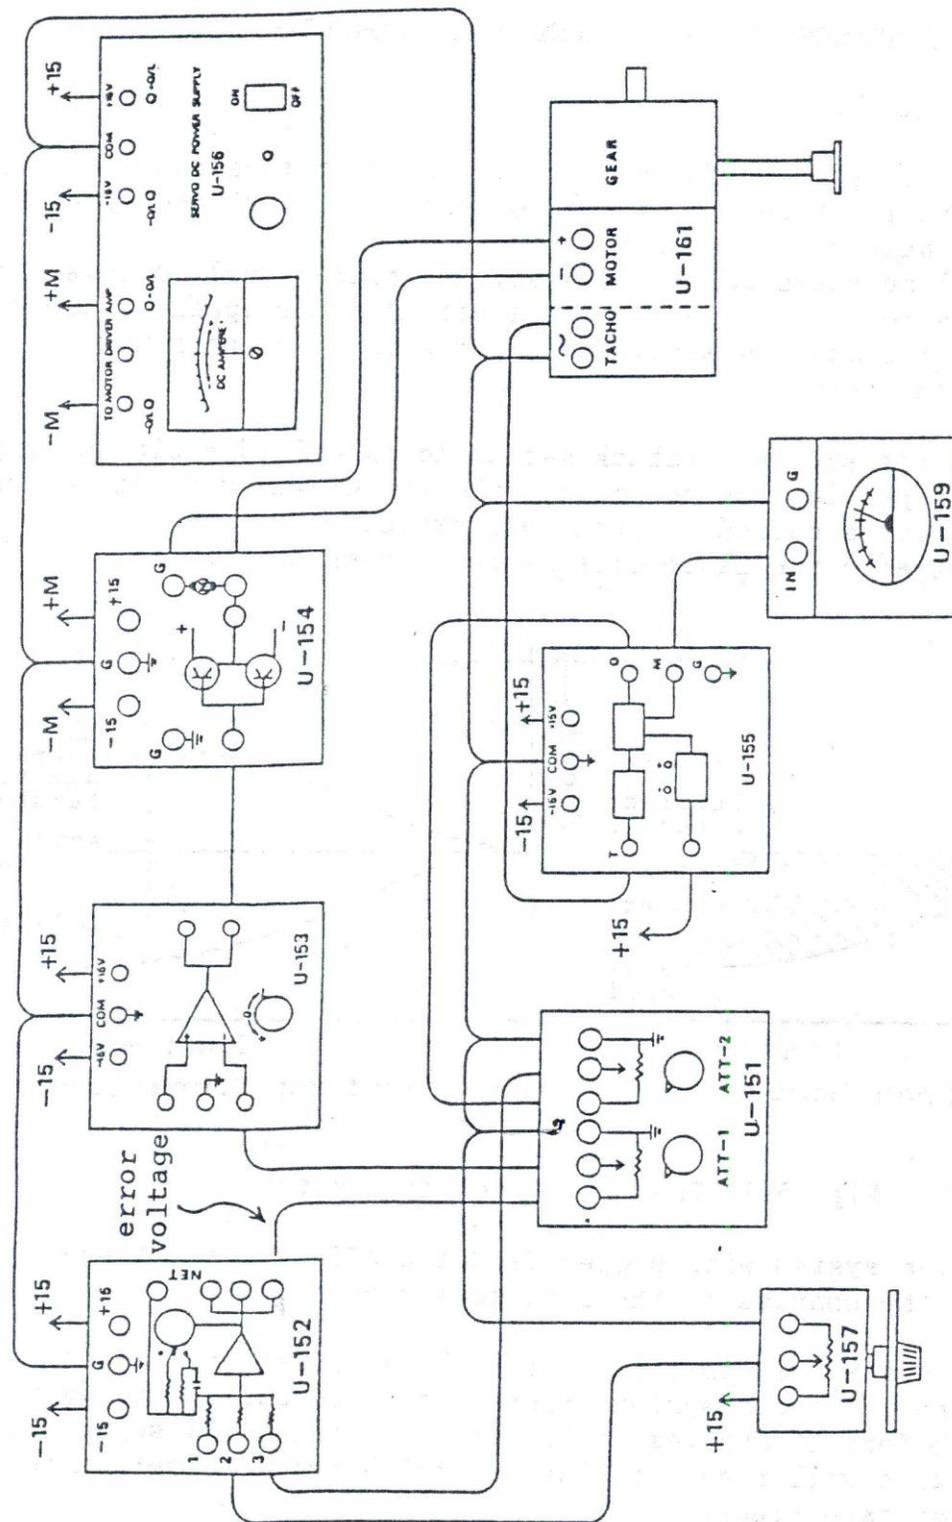

Fig. 5-2 Wiring Diagram of Experiment 5
1. Referring to Fig. 5-2, wire all the modules as needed.